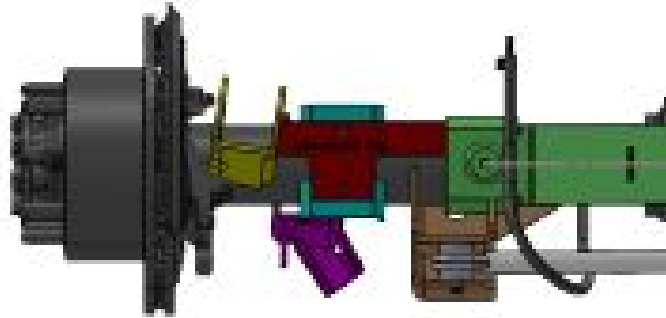

Figure 1-7
- Use the alignment tool to position the Bump Stop Pad and set the angle to 5 degrees. See *Figure 1-7*.